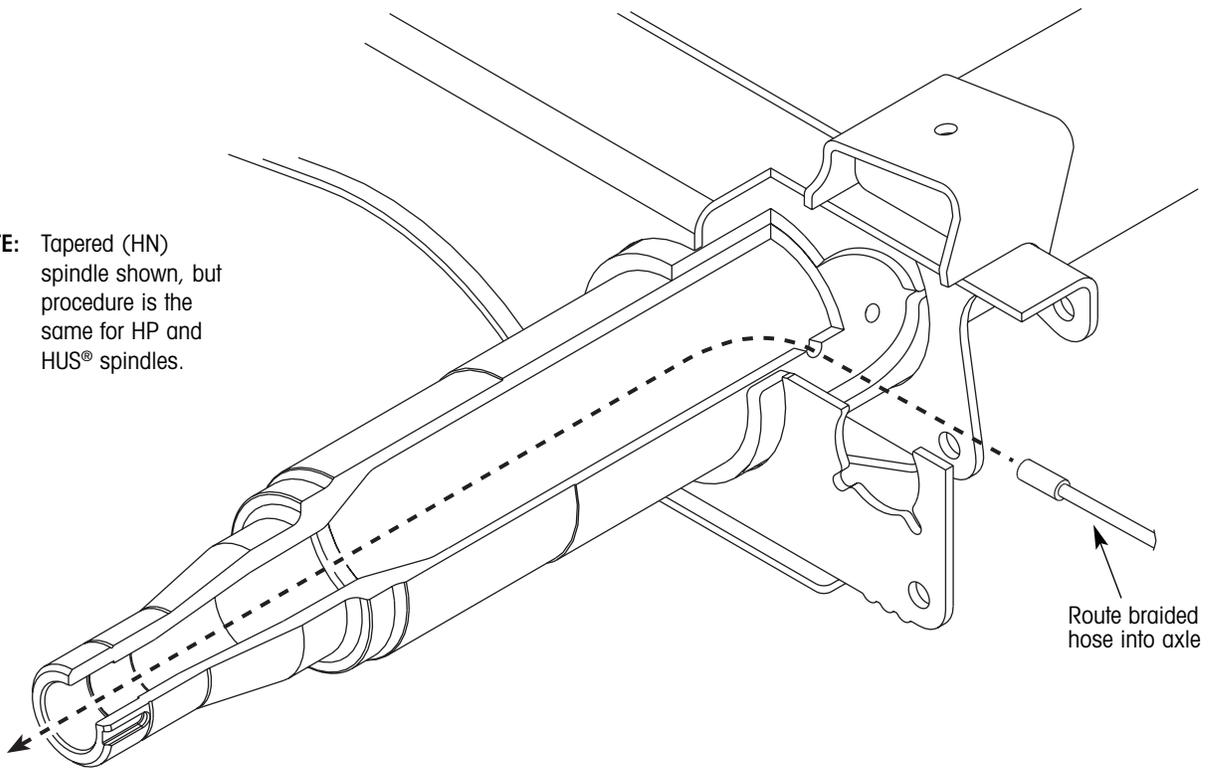

Figure 8. Routing hose in axle
1. On the end of the axle tube with two ¼-inch holes in the wrap window (on INTRAAX and VANTRAAX suspensions), route the small end of the metal braided hose into the hole closest to the spindle end (figure 8). On Hendrickson Trailer Axles, route the small end of the metal braided hose into the hole closest to the spindle.